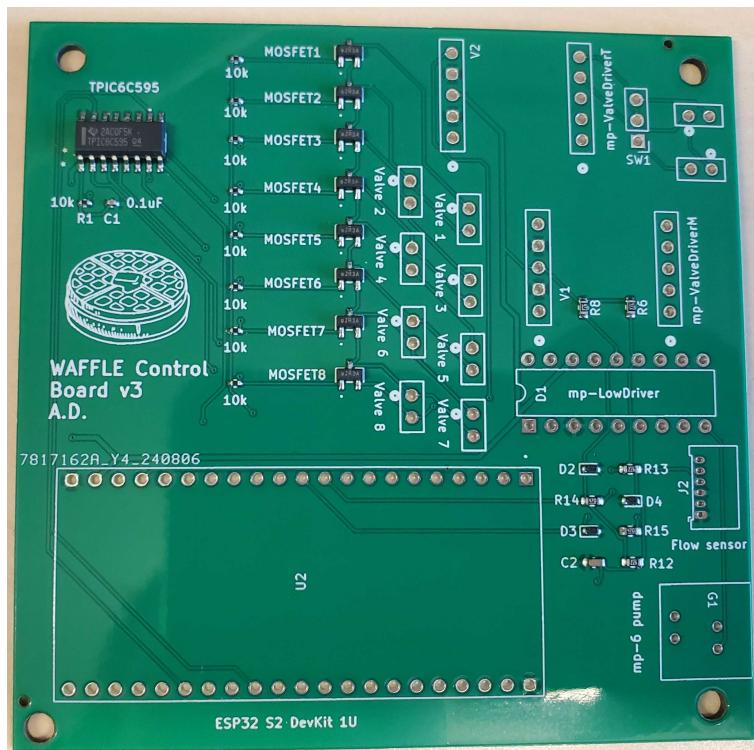

Figure 3: WAFFLE PCBA - as received
1. Order the PCB with pick and place assembly from JLCPCB or similar PCB manufacturer using the Gerber files, BOM and pick-and-place file provided on the Github page. Figure 3 shows the latest version of the PCBA that you should receive.